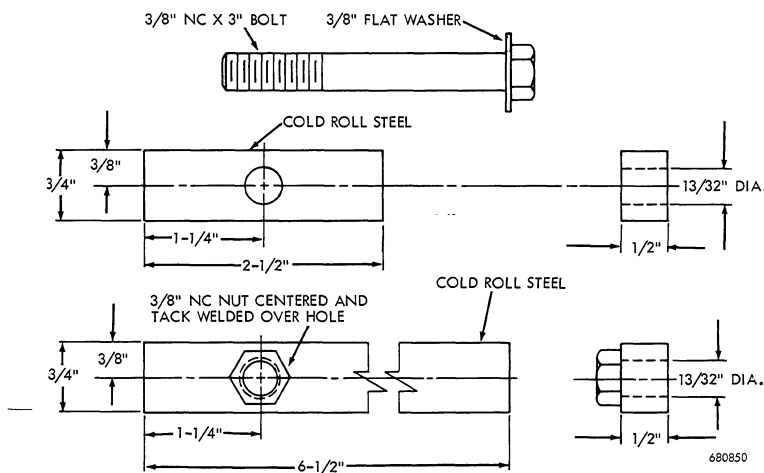

Figure 65
5. Two special holding tools must be fabricated. Figure 65.